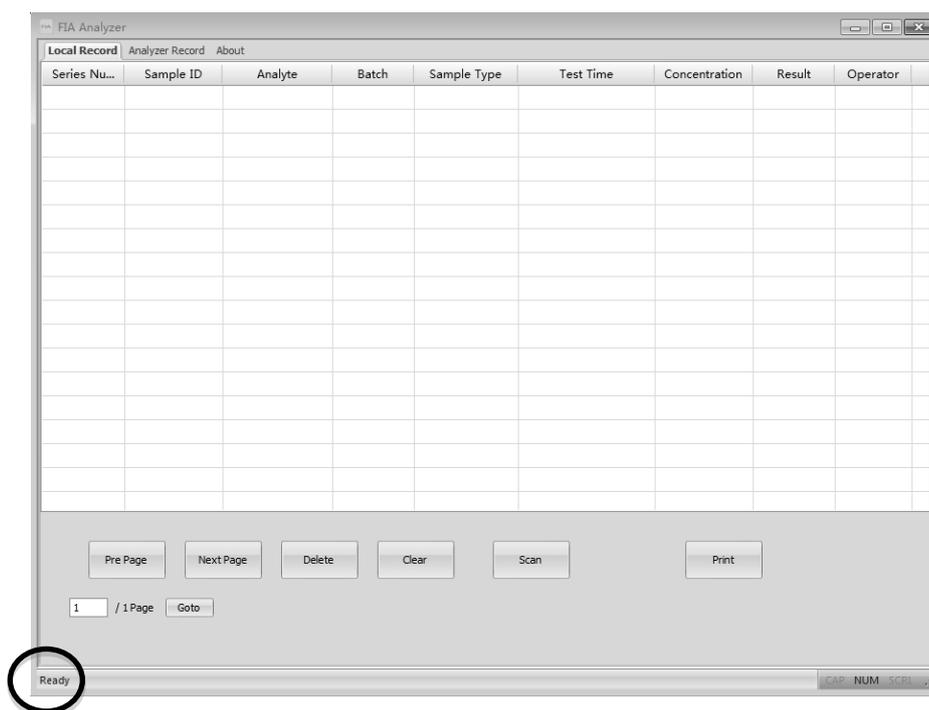

Fig 40
3. Double-click the icon on the desktop screen to open the homepage of the software (Ref Fig 40)